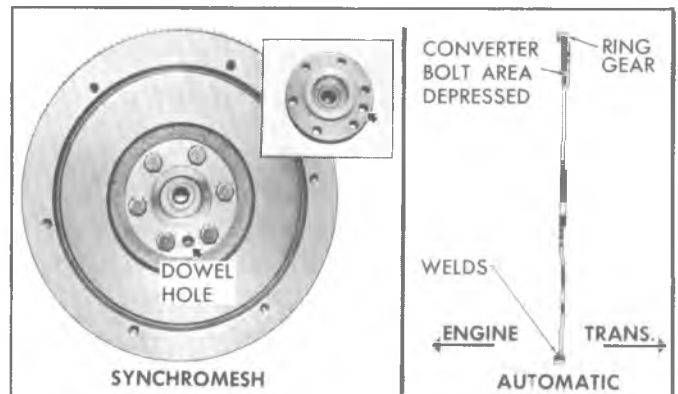

Fig. 20V—Flywheel Installation (Typical)
2. Install flywheel on crankshaft and position to align dowel hole of crankshaft flange and flywheel (fig. 20V).
NOTE: On Automatic Transmission equipped engines, the flywheel must be installed with the flange collar to transmission side (fig. 20V).